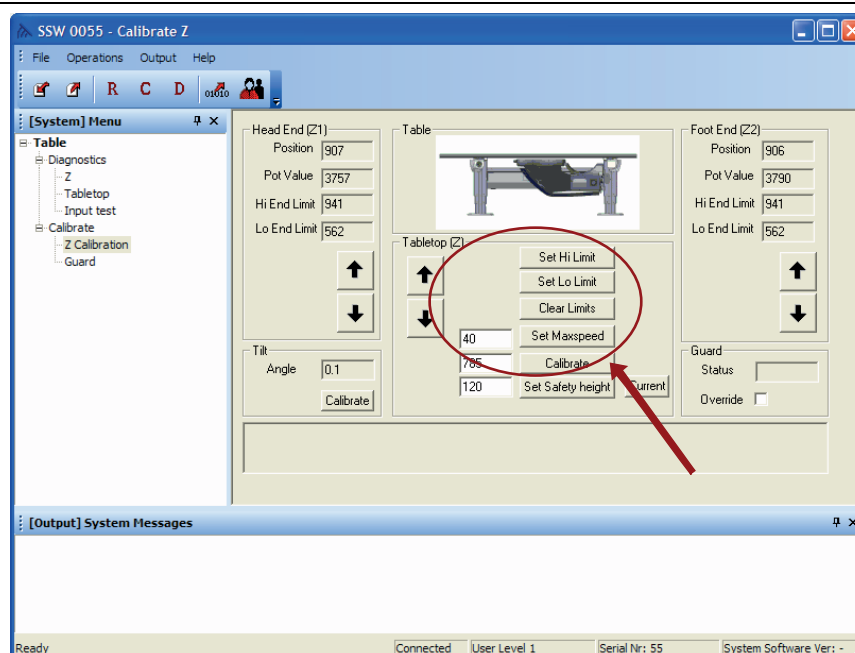

Fig. 5-159 *Setting the Table top limits*
4. Press the *Clear Limits* button, see Fig. 5-159 *Setting the Table top limits*.